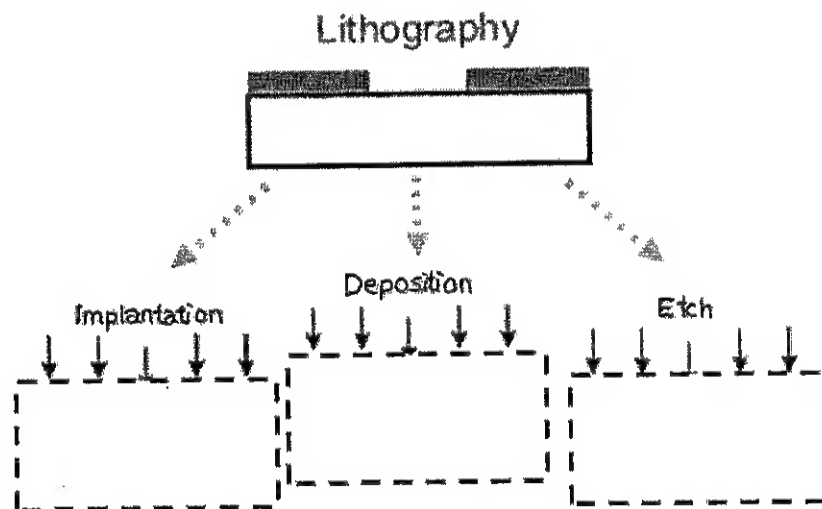

Figure 3(c): Applications of lithography to pattern the implantation areas, deposit metal features and etch areas.
- (c) Figure 3(c) depicts the applications of lithography to pattern the implantation areas, deposit metal features and etch areas. Illustrate the resultant structures following the implantation, deposition and etching process, respectively. [6 marks]